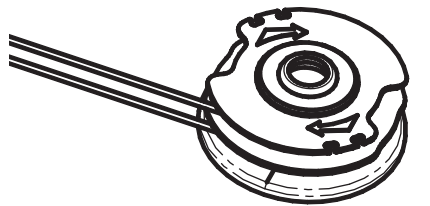

Fig. 17
- Wind the line onto the spool by turning the spool clockwise (Fig. 17). The line should wrap snugly around the spool. Do not twist or cross the line. Wind the line until there are approximately 4 inches remaining.